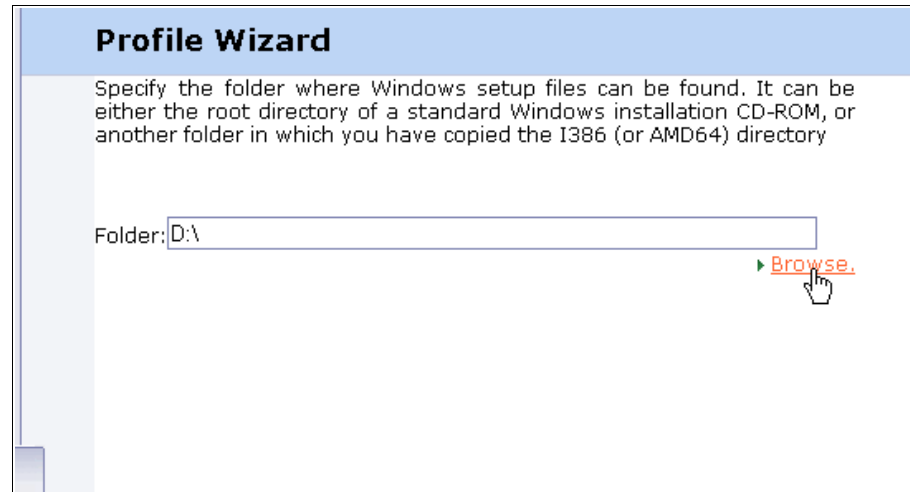

Figure 2-8 Browse to source location
5. The next step is to specify where the installation files are located. Tivoli Provisioning Manager for OS Deployment will copy the installation files into its own system. This way they will be protected from outside changes, plus Tivoli Provisioning Manager for OS Deployment can optimize disk usage by keeping files only once across all images. Since we have the files on a local hard drive, we will click on the **browse** button, as shown in Figure 2-8.